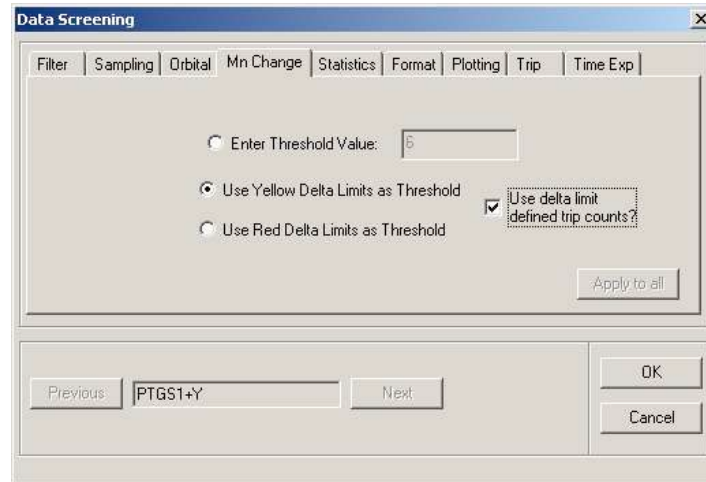

Figure 73: Data Screening Threshold Specification
- Select the “Mn Change” tab from the Data Screening window (see Figure 73).